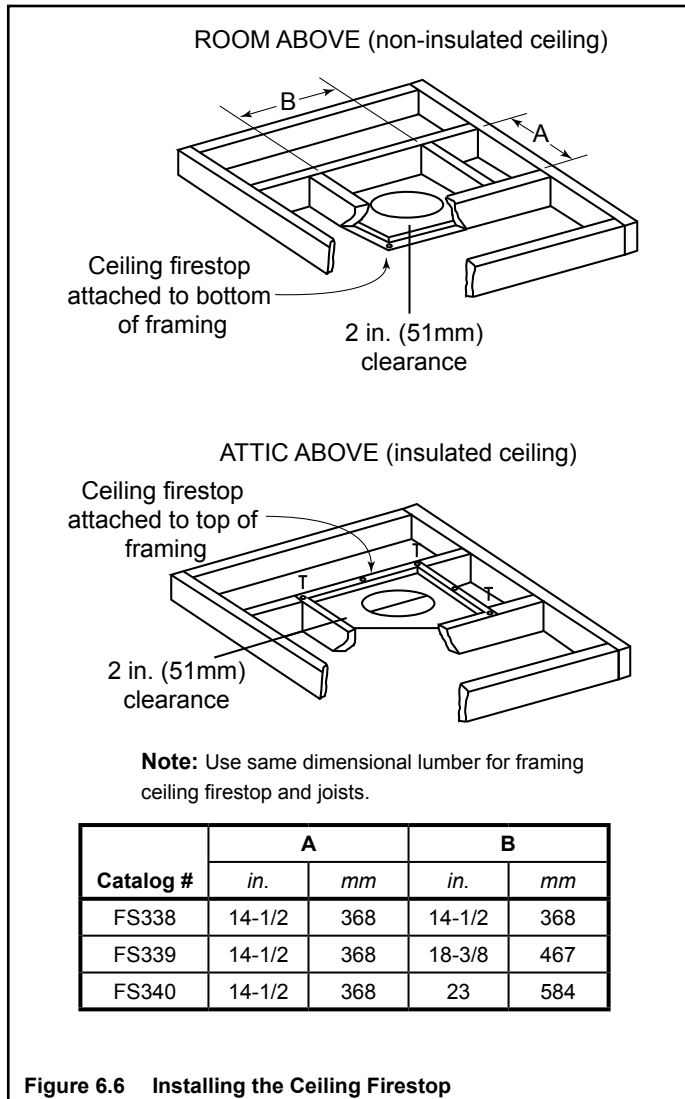

Figure 6.6 Installing the Ceiling Firestop
- Mark and cut an opening in ceiling/floor as shown in Figure 6.6.